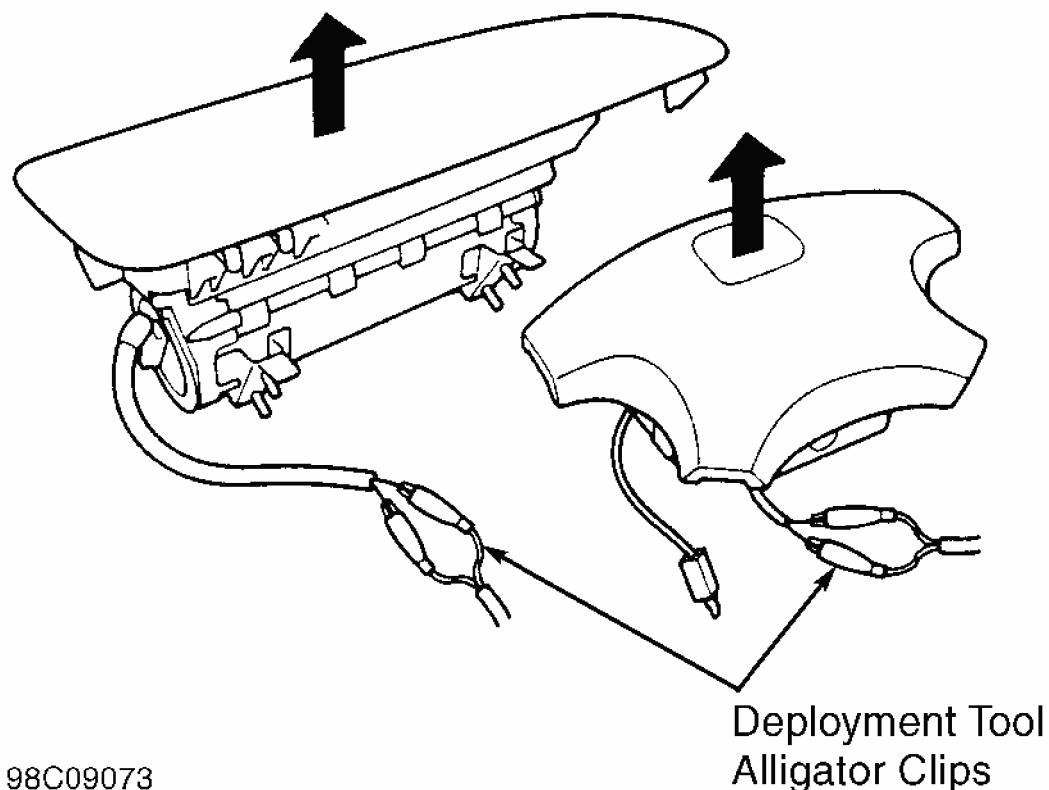

Fig. 7: Deploying Removed Air Bag (Driver & Passenger-side Air Bags Shown, Side Impact Air Bags & Seat Belt Pretensioners Are Similar)
2. Air bag modules are to be deployed face up. Place air bag or pretensioner outdoors on flat ground. To deploy any air bag or pretensioner, cut off air bag or pretensioner connector and strip back 1" (25.4 mm) of insulation from wire ends. Connect Yellow alligator clips of deployment tool to uninsulated wire ends. See **Fig. 7** . Place deployment tool at least 30 feet (9.1 m) away from air bag.